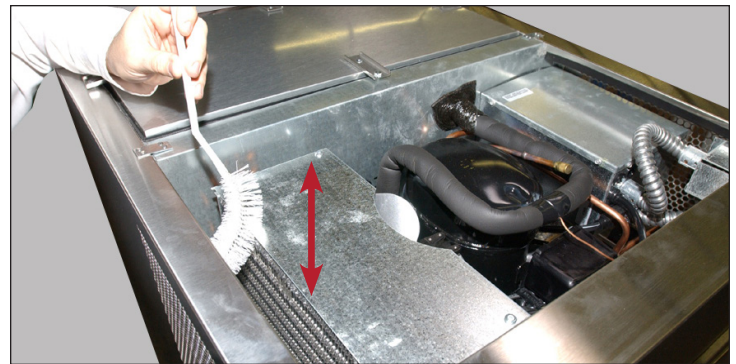
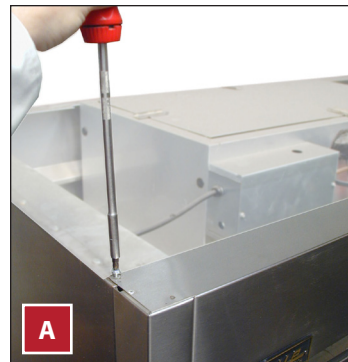

Fig. 2. If accessible, clean the condenser coil. Never brush across coil fins.
Fig. 3. Remove the rainshield.
3. If accessible, with a stiff bristle brush, carefully clean accumulated dirt from the front condenser coil fins. See fig. 2. If you cannot access or completely clean the condenser coil, then remove the rainshield. See figs. 3 and 4.